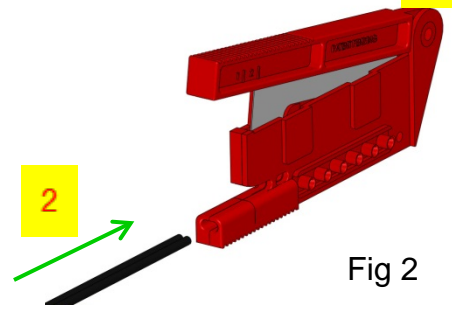

Fig 2
2. Split the cable jacket as shown in Figure 2 Insert cable into slot and push down lever, (Figure 2 & 3) remove and separate the zipcord approximately 2"